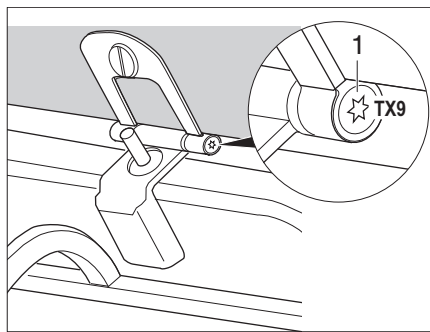

Fig. 126 Glass cover hinges
- Carefully tighten the hinge screws (Fig. 126,1) using a Torx socket TX9.